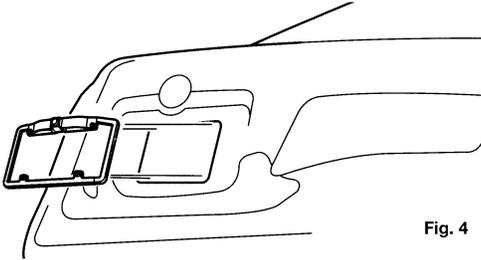

Fig. 4
1. Install the license plate frame using the appropriate 4 screws. (Fig. 4)